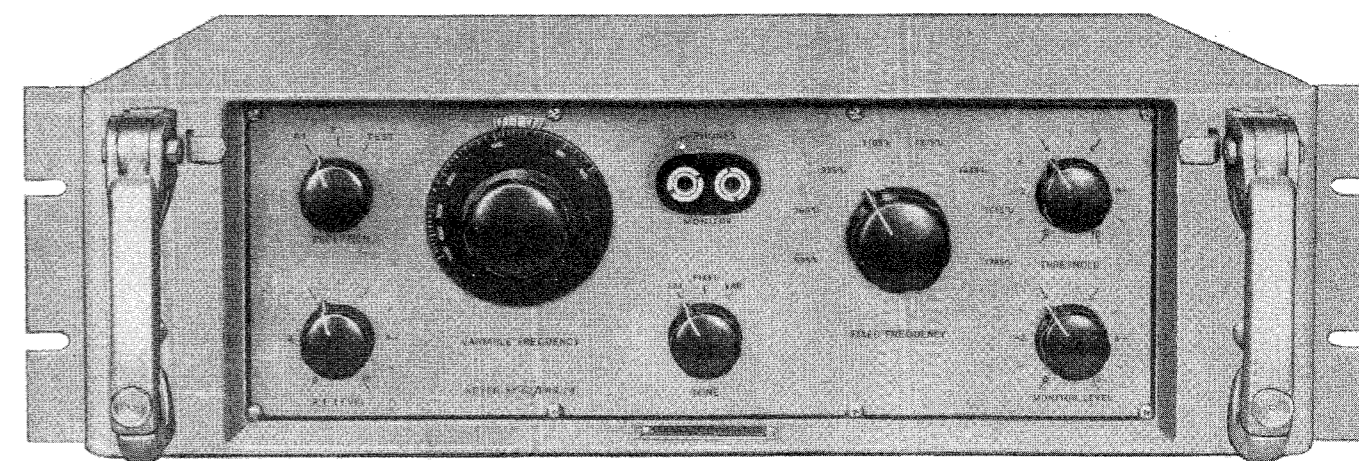

Figure 1-21. Keyer KY-62/FRR-24
(11) KEYSER KY-62/FRR-24. (See Figures 1-21 and 1-22).—The keyer is utilized to accept a D.C. input signal, amplify this signal and provide an audio tone at its output suitable for transmission over land lines to equipment capable of operating from a 600-ohm source. Three stages of D.C. amplification are employed to key the audio amplifier tubes in accordance with the incoming A1 or F1 radio-frequency signals. Audible monitoring of the output signal is made possible by insertion of headphones into the Phones jack. The input signal is derived from Amplifier-De-